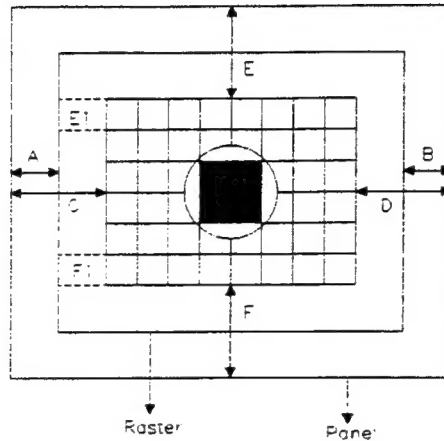

Figure 7
2. Adjust VR403 let A-B = 0 ± 1 mm (See Fig 7).
(7) DYNAMIC FOCUS CHECK
3. Press $+$ or $-$ to adjust Vertical center ≤ 2 mm. (See Fig 7, $|E-F| \leq 2$ mm)
(10) HORIZONTAL WIDTH ADJUSTMENT
3. Press $+$ or $-$ to adjust Horizontal phase ≤ 2 mm. (See Fig 7, $|C-D| \leq 2$ mm)
(12) PINCUSHION ADJUSTMENT